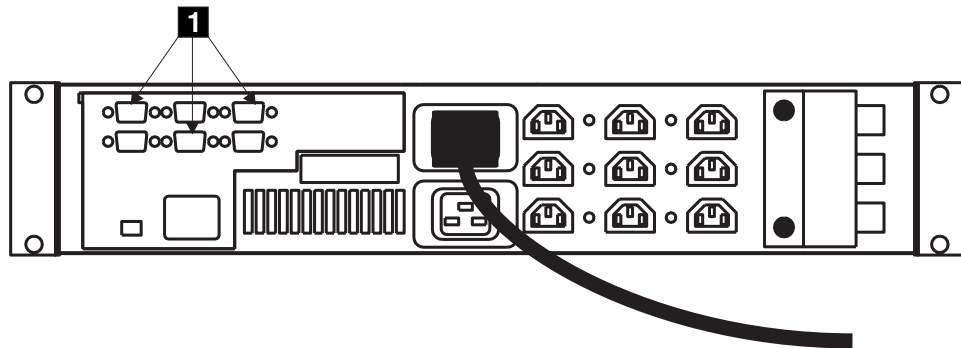

Figure 300. Disconnecting the 2145 uninterruptible power supply signal cables
2. At the back of the 2145 uninterruptible power supply, disconnect the signal cables **1**, which are shown in Figure 300.